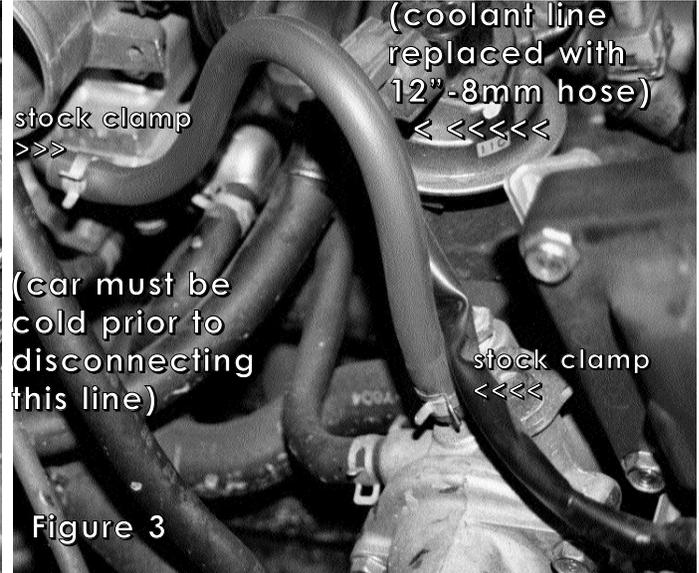

Figure 3
- 1- Remove the stock air box cover and intake air duct. Remove the check valve, control solenoid valve and control diaphragm. Remove all of the components marked along line 8 above. Then cap off vacuum port on the throttle body with the 3mm cap provided in this kit. refer to diagram (A)**
- 2- Remove the stock PCV pipe seen in diagram B (make sure the car is completely cooled before attempting to disconnect any of these lines). Use the 12"- 8mm hose to reconnect the coolant line and use the stock clamps to fasten the hose. See fig. 3**